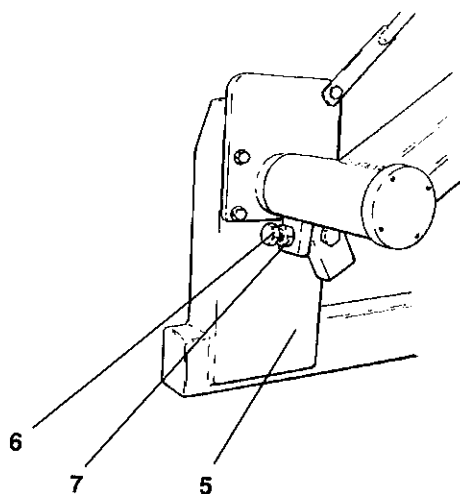

Fig. 3-8
Adjusting trolley hoist (Fig. 3-8, 5):
- Unscrew stop bolt (Fig. 3-8, 6) and locknut (3-8, 7) using the WAF 30 universal spanner (order no. 134.030-010).
- Adjust the trolley hoist (Fig. 3-8, 5) so that it is horizontal at the new entry height.